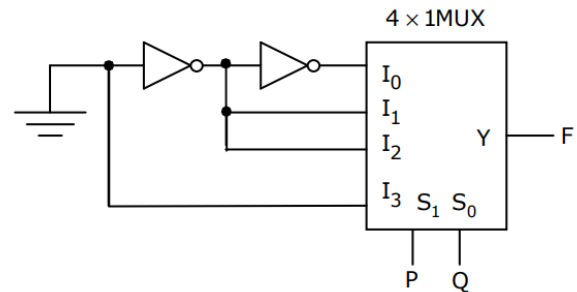

Fig. 3.8
19. Find the logic function implemented by the circuit given below in Fig. 3.8 (GATE EC 2011)